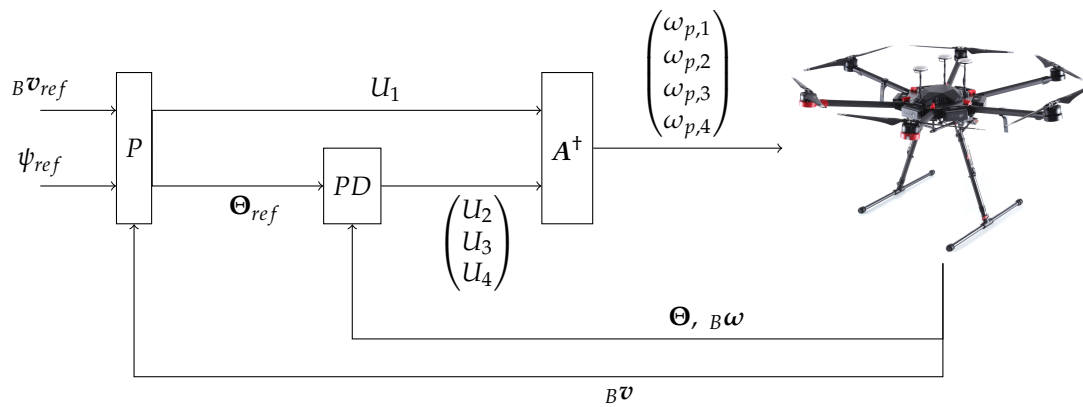

Figure 2: Control structure.
In this exercise, attitude and velocity controllers will be designed and evaluated using MATLAB and SIMULINK. The control structure is depicted in Figure 2. The outer loop controller (velocity controller) generates commands  $\boldsymbol{\Theta}_{ref}$  to the inner loop controller (attitude controller). The commanded force and torques (total thrust  $U_1$  and moments  $U_2, U_3, U_4$ ) are converted into rotor speed  $\omega_{p,i}$  by inverting the expression in Equation (11). Note that matrix  $\mathbf{A}$  has dimensionality  $4 \times 6$ . Therefore, the pseudo-inverse is used to solve Equation (11) for  $\omega_{p,1...6}$ . The pseudo-inverse is given by  $\mathbf{A}^+ = \mathbf{A}^T (\mathbf{A} \mathbf{A}^T)^{-1}$ .